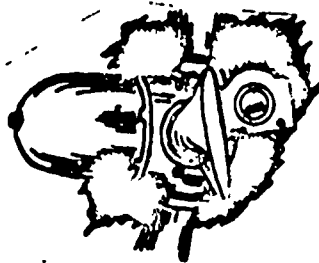

Figure 8. Measuring Blade Angle.
- h. Place the protractor on the flat side of the blade using the opposite side of the protractor than that used when you zeroed the protractor. See figure 8.